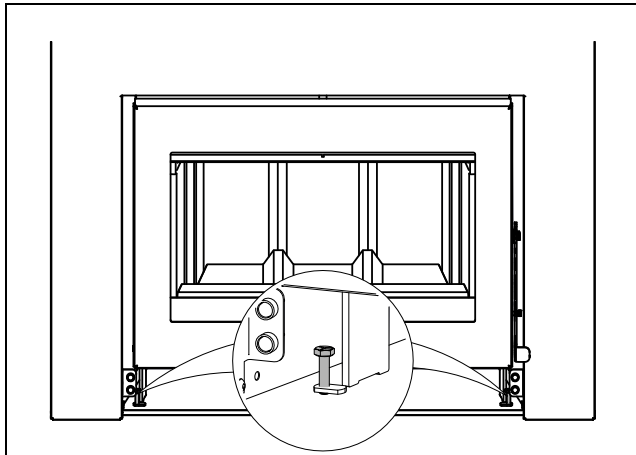

Figure 8 Leveling bolt location
4. The appliance flue collar is provided and already installed. If there is enough room to connect the liner to the appliance flue collar directly, move the insert into place by sliding it into the fireplace opening. Connect and secure the liner to the appliance flue collar. Ensure the unit is resting on a flat surface, and using the two leveling bolts at the front, adjust for stability (Figure 8).
7. Ensure the unit is resting on a flat surface, and using the two leveling bolts at the front, adjust for stability (Figure 8).